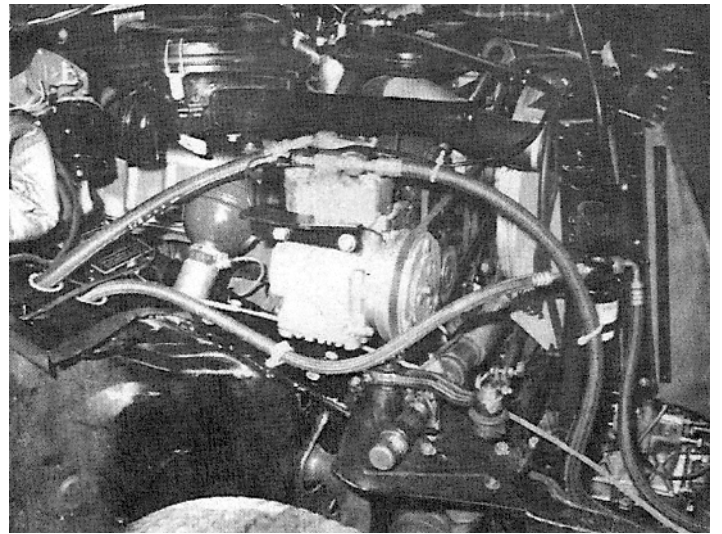

FIG 17
2. Use (2) 7 long plastic ties to secure the #8 freon hose to the drier bracket and the wire harness clutch lead to #8 freon hose. See FIG: 17 Use (1) 1" clamp to secure #6 freon hose to splash pan.